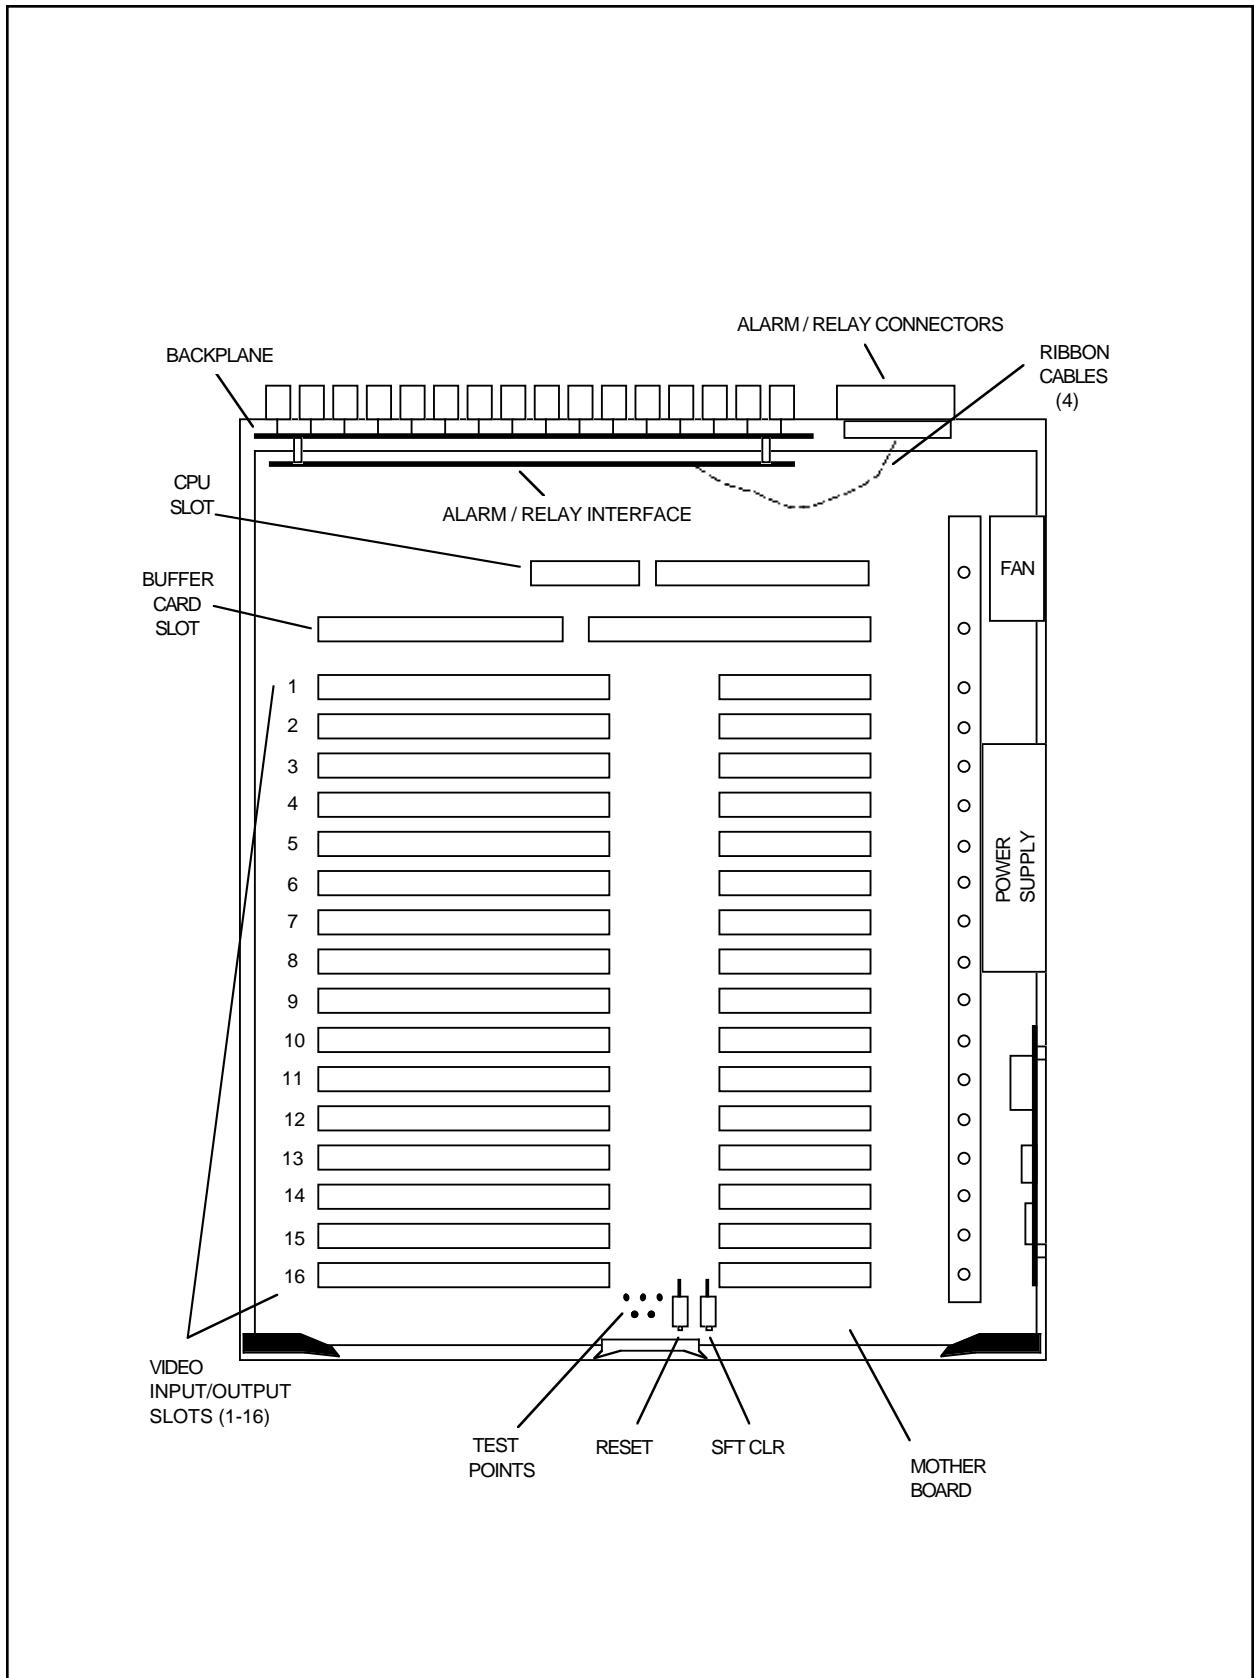
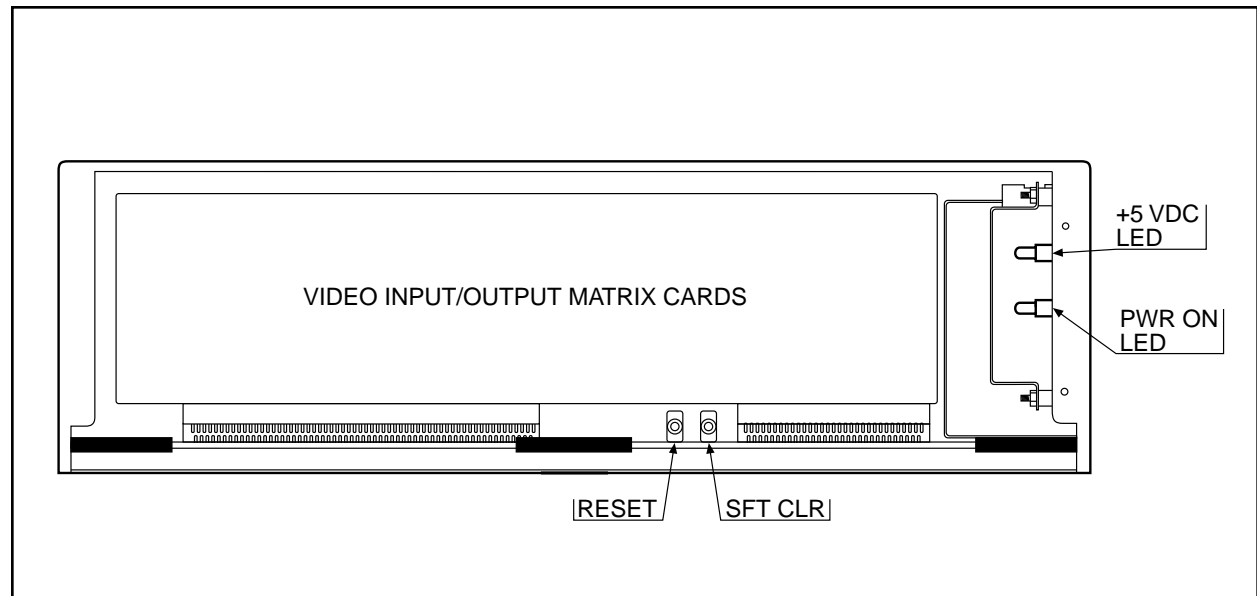

Figure 6. CM8503A-1 Card Cage Top View
Figure 7. CM8502A-1/CM8503A-1 Card Cage Front View
Figure 6 shows the board location for the CM8503A-1 Card Cage. The CM8502A-1 Card Cage board locations are identical, with the only difference being eight (8) fewer video input/output slots. (Slots 9-16 are not present in the CM8502A-1 version.) Refer to Figure 7 for the front view of the CM8502A-1/CM8503A-1 Card Cages. When the power switch is in the On position, both the green Power On LED and the red +5 VDC
The Alarm/Relay Interface Kit contains the Alarm/Relay Interface Board (with ribbon cables attached) and all hardware needed to secure the board and connectors. The Alarm/Relay Interface Board mounts onto the Backplane of the CM8502-1 or CM8503-1 Card Cage (refer to Figure 6).